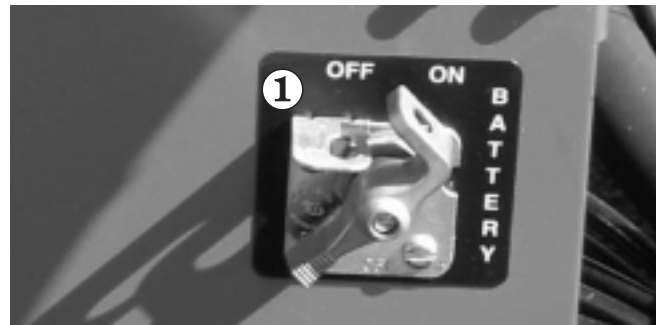

Figure 8.3
1. Set the **Battery** switch ① (see Figure 8.3) to on.